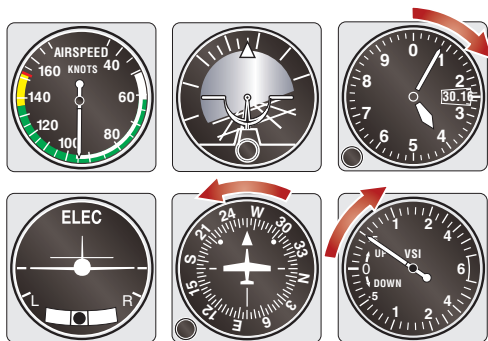

Figure 29-28 Question 16.
16. Interpret the flight attitude in figure 29-28.